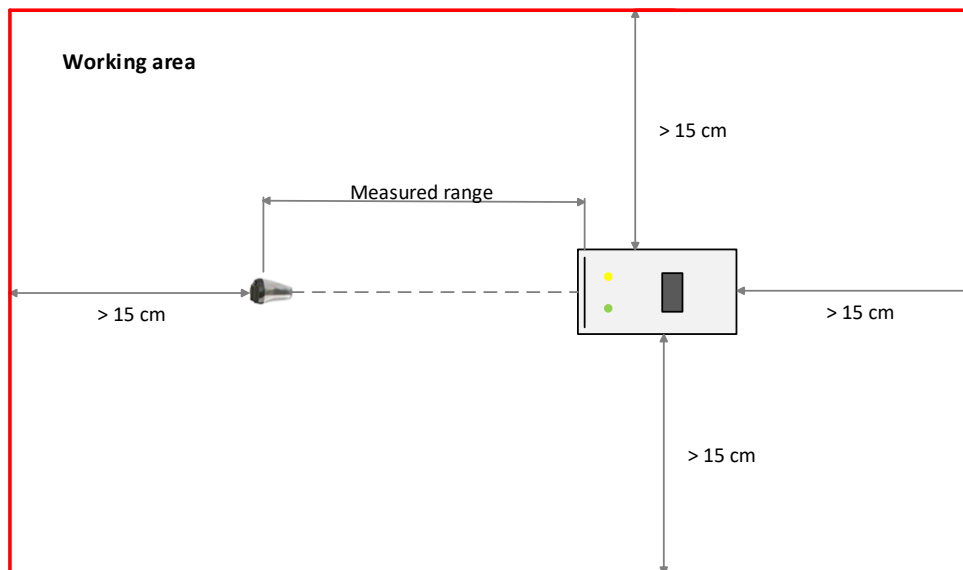

Figure 3. Working area.
- Place SBO Range Tester NL 4 about 35 cm from Hearing Instrument according to Figure 3. Working area.
- Turn on Tester with main switch ①.
- Check if power indication LED ② lights. If not, battery has to be replaced with new one.
- During start green LED ④ will light up for about 5s. After that Tester is ready to be used.
- Move Tester towards the Hearing Instrument and find distance where yellow LED ③ will start blinking. Yellow LED is turned on for a short whenever Hearing Instrument is able to report back successful reception of a packet.